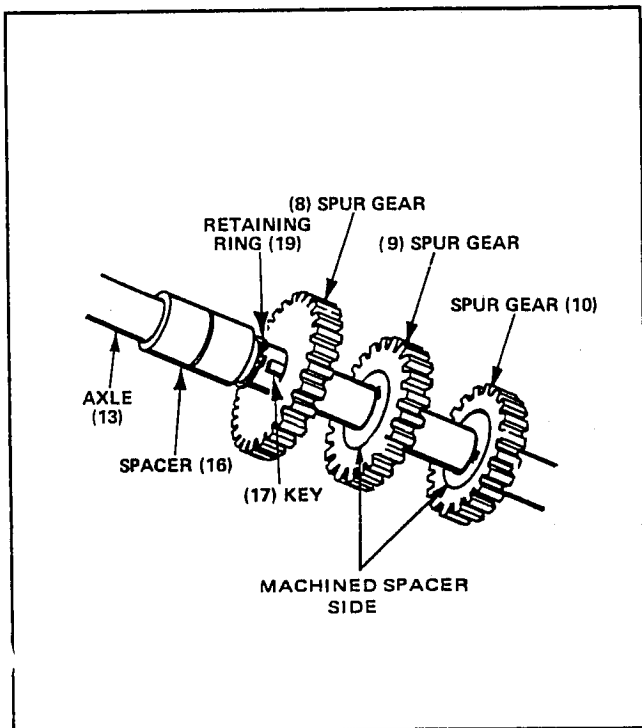

FIGURE 2-36. AXLE ASSEMBLY
5. Remove the axle from case, with gears. Remove gears, (Fig. 2-36) items 8, 9 and 10 keyed to axle. Remove spacer (16).
3. Install retaining ring, Fig. 2-36, (19) on axle. Install spacer on axle shaft.
5. Install largest to smallest spur gears on the key on the axle. Be certain the machined spacer side of gears (Fig. 2-36, items 9 & 10) face the cover half. Install axle with gears into case half. All six gears must be in mesh.